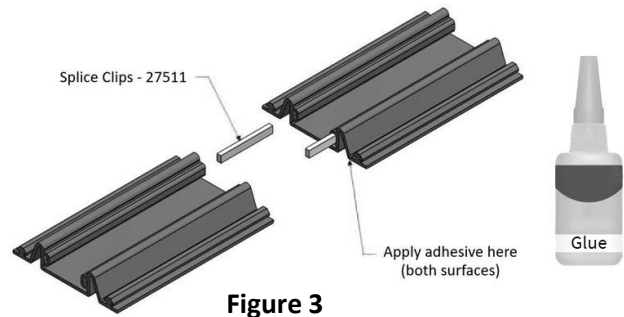

Figure 3
3. Next the Pantograph Mechanisms should be installed, three per 10ft section using  $\text{Ø}3/16$ " drywall or masonry anchors as required (see Shop Drawings). At the first 10ft section (lowest), install the first of three pantographs at approximately the middle of the first 10ft section. Then measure in from each edge 20" and place the pantograph hinges centered on that dimension. Pantograph mechanisms should be installed 40" on center so that a uniform distance is maintained when multiple EJN-LCH Systems are connected end-to-end. **See Figure 3 & 3a.**
4. Next the Pantograph Mechanisms should be installed, three per 10ft section using  $\text{Ø}3/16$ " drywall or masonry anchors as required (see Shop Drawings). At the first 10ft section (lowest), install the first of three pantographs at approximately the middle of the first 10ft section. Then measure in from each edge 20" and place the pantograph hinges centered on that dimension. Pantograph mechanisms should be installed 40" on center so that a uniform distance is maintained when multiple EJN-LCH Systems are connected end-to-end. **See Figure 3 & 3a.**
protruding ends of the splice clips into the ends of the two seals together, applying uniform pressure for at least two minutes while maintaining contact between both sides. The splice clip is not necessary, but is recommended, especially on larger sized seals. **See Figure 3**